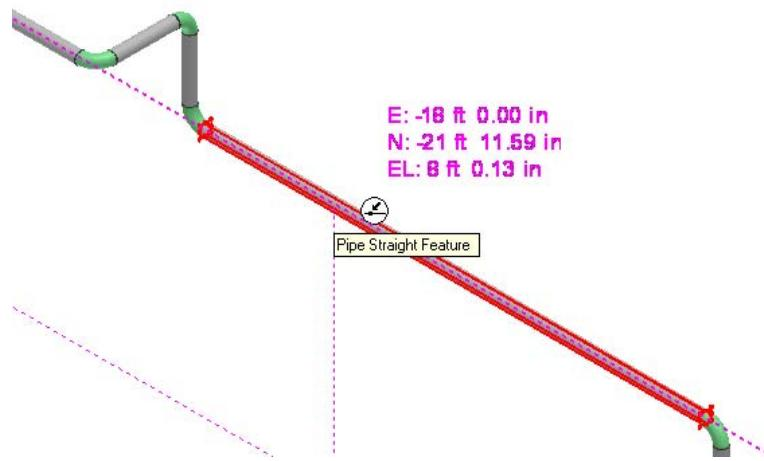

Figure 5: Pipe Straight Feature of 400-P Pipeline
33. The system prompts to select either a Pipe Straight feature. Select the pipe run **U04-4-P-0203-1C0031**, to specify the pipe where you want to insert the takedown joint, as shown in Figure 5.